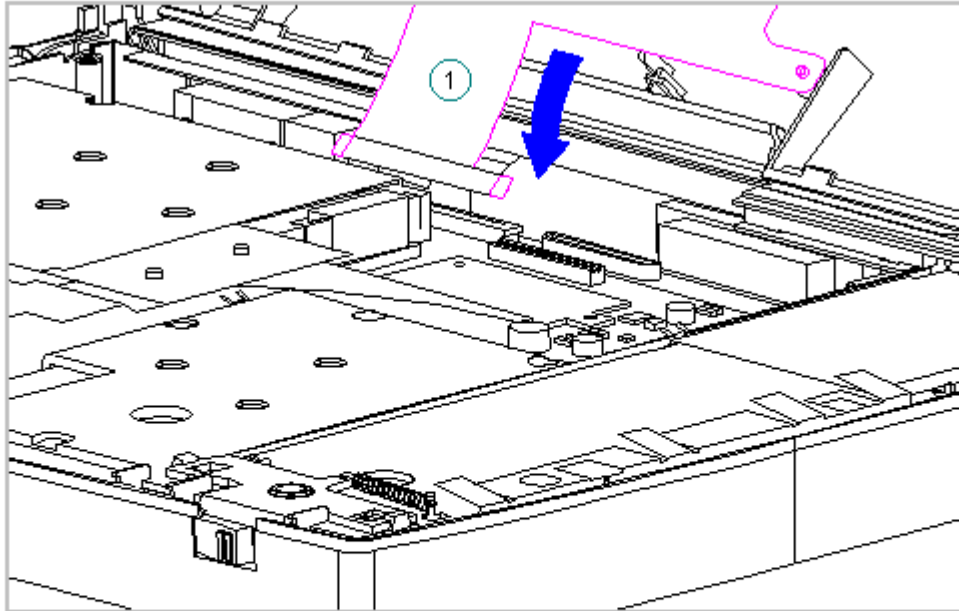

Figure 5-121. Connecting the Display Ground Cable to the Flex Ground Bracket on the System Unit Module
30. Connect the display ground cable [1] to the flex ground bracket above the serial port connector between the system board and the system chassis (Figure 5-121).